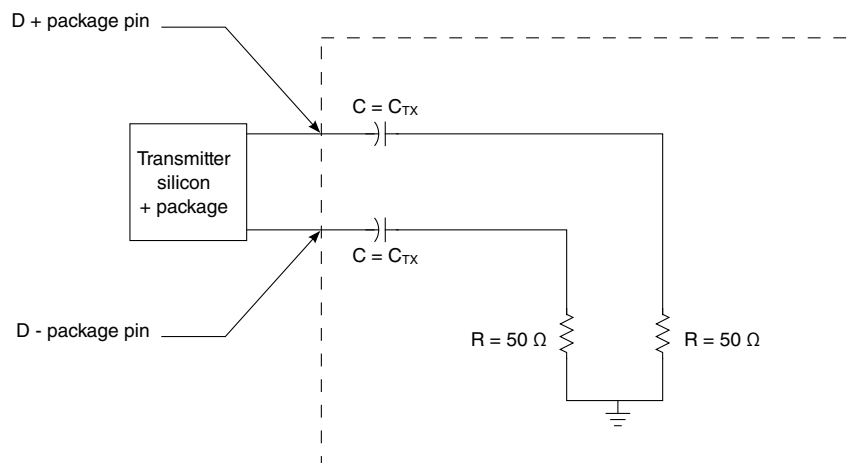

Figure 70. Test/measurement load
1. Specified at the measurement point into a timing and voltage test load as shown in Figure 70 and measured over any 250 consecutive transmitter UIs.
1. Specified at the measurement point and measured over any 250 consecutive UIs. The test load in Figure 70 must be used as the receiver device when taking measurements. If the clocks to the receiver and transmitter are not derived from the same reference clock, the transmitter UI recovered from 3500 consecutive UI must be used as a reference for the eye diagram.